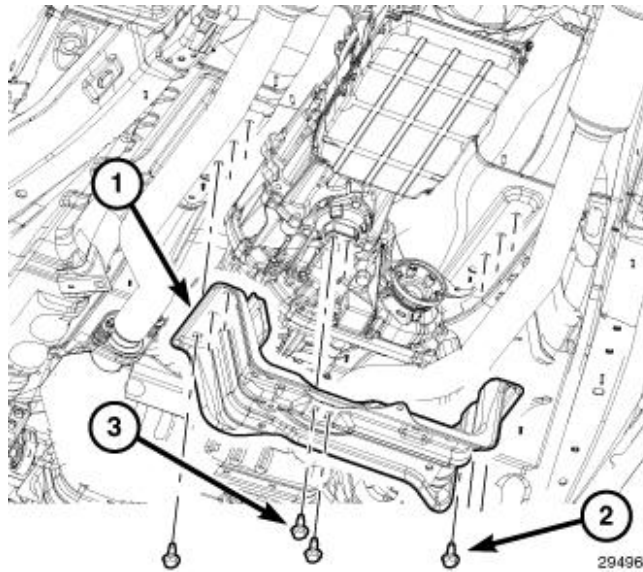

Figure 33 – Transmission Mount Bolts
- 63. Remove the transmission mount to crossmember bolts (3) (Figure 33).
- 66. Remove the six fasteners (2) securing the transmission crossmember to the vehicle, and remove the crossmember (Figure 33).